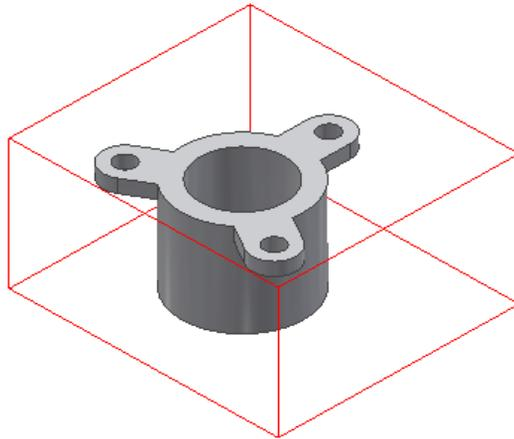

Figure 19-51 Preview of the workpiece displayed
2. Select the **Rectangular** option from the **Workpiece Type** drop-down list in the dialog box; preview of the workpiece is displayed in the modeling area, refer to Figure 19-51.